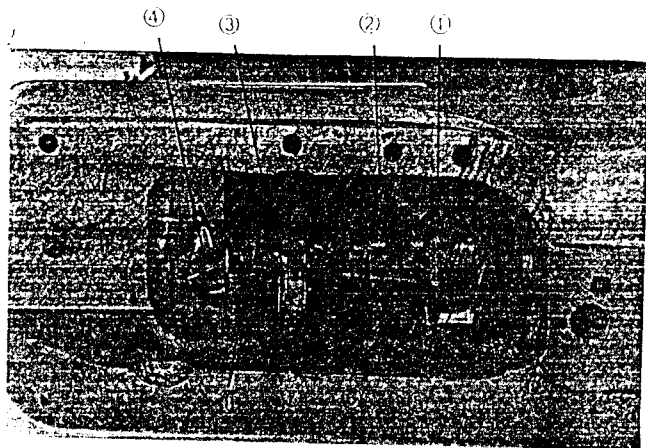

Fig. 14
As per Chapter 12, the upper timing line of the pair of timing lines became even with the lower edge of the needle bar lower bushing at the lowest point of the needle bar, so rotate the pulley toward the operating direction and adjust so that the lower timing line comes even with the needle bar lower bushing. At this position, (Fig. 13B) match the point of the looper (Fig. 14 ④) with the center of the needle and make the clearance between the needle and the point at ①  $\sim 0.05\text{mm}$  and then tighten the looper set screw (Fig. 14 ⑧) securely.
### 13. TO PRODUCE OPTIMAL STITCHING CONDITION (Fig. 14, 15)
#### (i) Adjusting the loop positioning finger lever (Fig. 14, 15)
#### (ii) Timing the loop positioning finger cam (front) (Fig. 14)